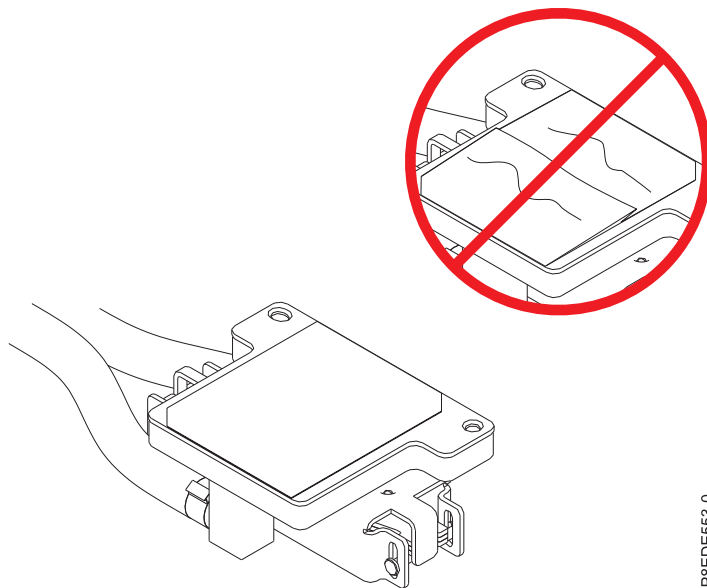

Figure 39. Inspecting the thermal interface material (TIM)
5. Inspect the thermal interface material (TIM) on the bottom side of the cold plate. See Figure 39. Use the following criteria as you inspect the TIM: